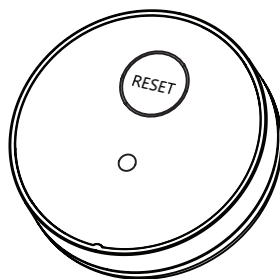

FIGURE 5
After new batteries are installed or filter is changed, push and hold the blue reset button for approximately five (5) seconds. Release the reset button after the light flashes five (5) times. The light will flash again in 90 days as a reminder to change the filter. (See Figure 5)